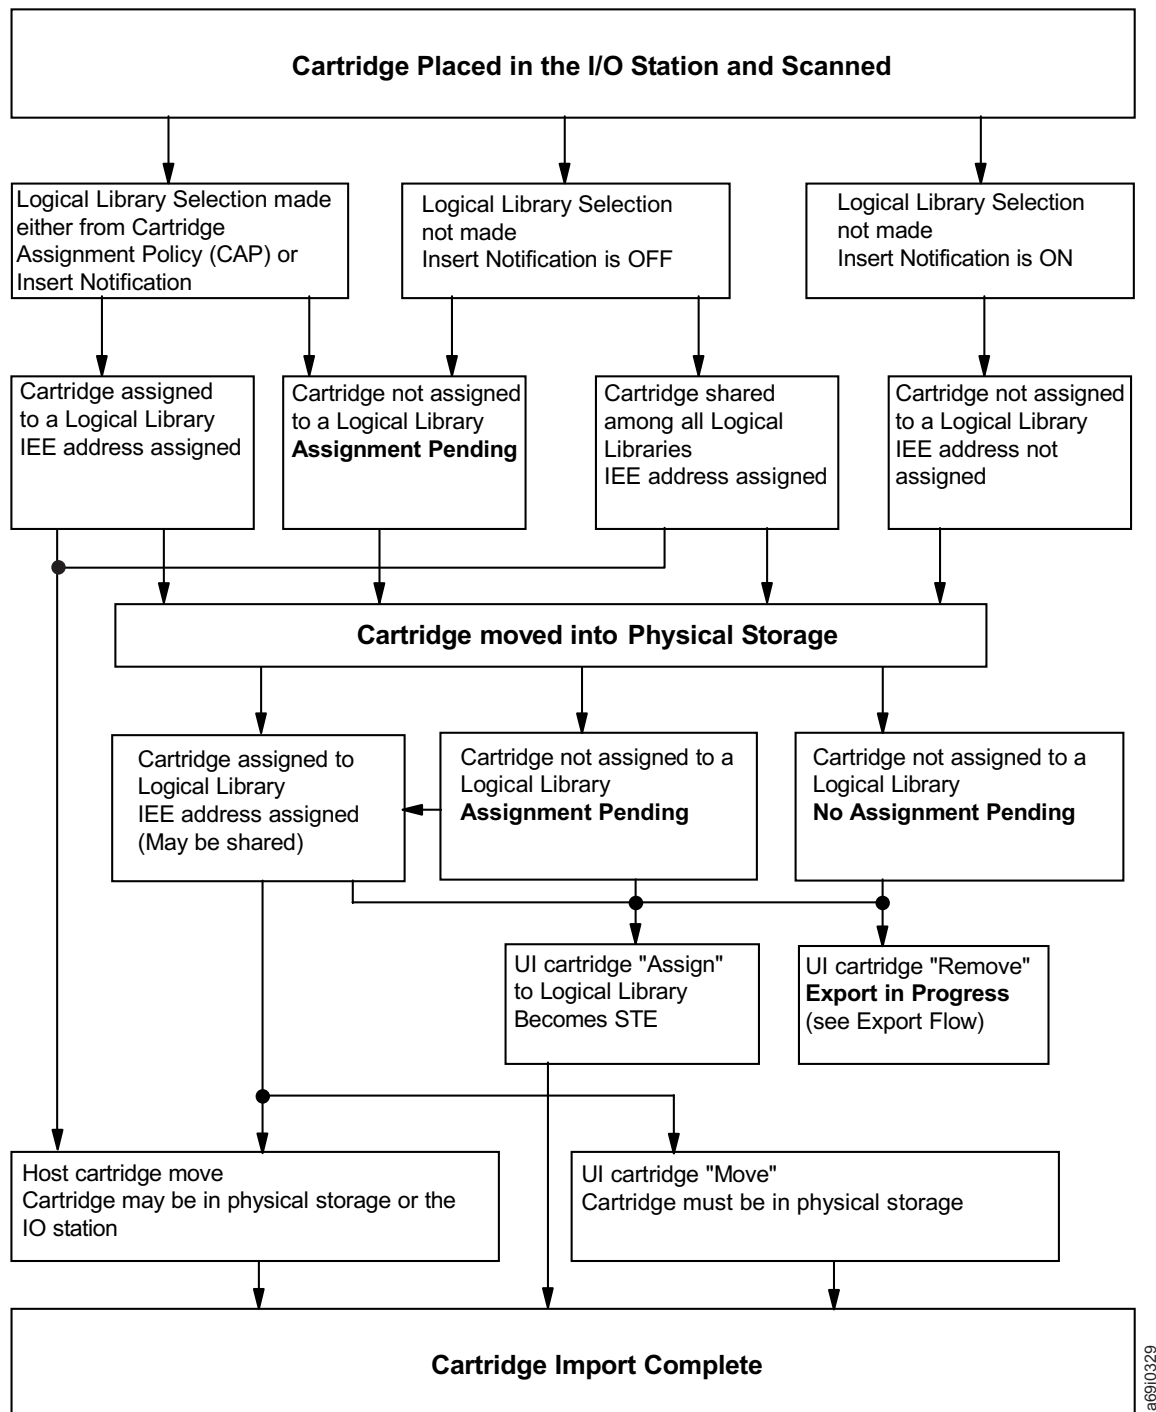

Figure 23. Scenarios for importing cartridges into the 3584 Tape Library when virtual I/O slots are enabled
2. After you have seated the cartridges, the library will automatically move them into storage slots. How each cartridge is assigned to a logical library varies, depending on whether the cartridge assignment policy and insert notification features are set. For additional details, see Figure 23 on page 67.
- See Figure 23 on page 67, then follow the procedure in “Assigning Cartridges to a Logical Library” on page 95.